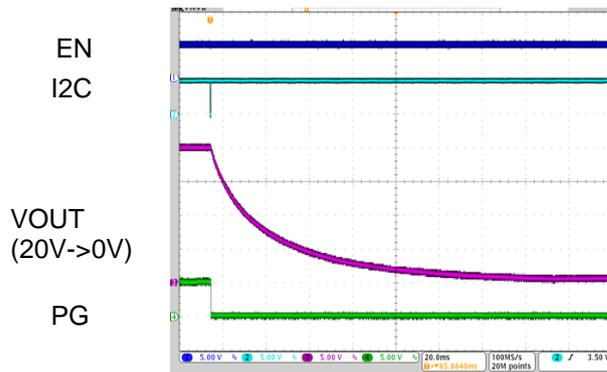

Figure 2.5 VOUT stop waveform (I2C control)
1) When the DCON bit is set to "0" by I2C, the DCDC stops and VOUT drops (Figure 2.5).